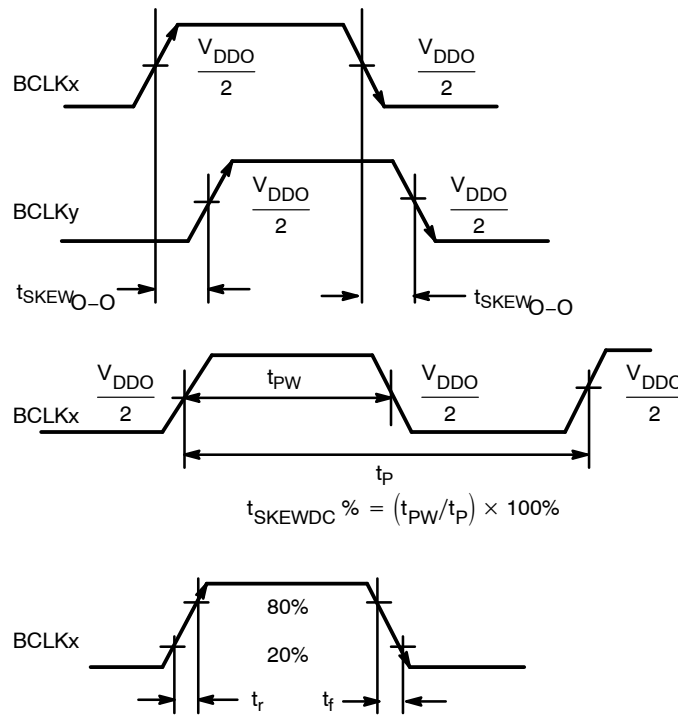

Figure 4. AC Reference Measurement
5. Crystal inputs $\leq F_{\max}$. Outputs loaded with 50Ω to $V_{DDO}/2$. CLOCK (LVCMOS levels at XTAL1 input) 50% duty cycle. See Figures 4 and 7. See APPLICATION INFORMATION; Crystal Input Interface for CL loading.
5. Crystal inputs $\leq$ F_{max}. Outputs loaded with 50 Ω to V_{DDO}/2. CLOCK (LVCMOS levels at XTAL1 input) 50% duty cycle. See Figures 4 and 7. See APPLICATION INFORMATION; Crystal Input Interface for CL loading.